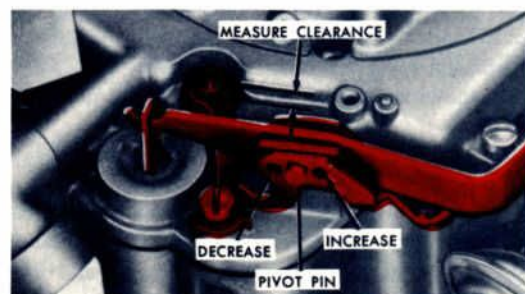

Fig. 27 Accelerating Pump Stroke Adjustment and External Vent Valve Clearance
The accelerating pump is designed to operate with the pump link pivot pin (Figure 27) in the center of the No. 2 hole. The pin may be installed in the No. 1 (left) hole to decrease the amount of fuel discharged, or in the right hole to increase fuel quantity. Moving the pivot pin changes the stroke of the pump piston.
2. Measure the clearance between the vent valve and its seat (Figure 27). It should measure  $\frac{1}{16}$  inch.